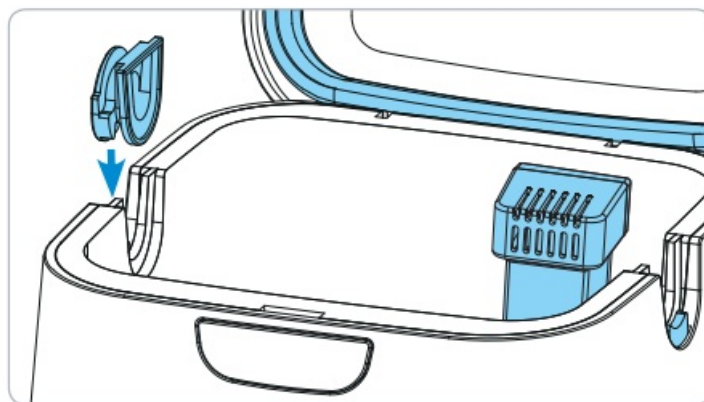

Figure 6. Install Removable hose slot plug
2. Install the Removable hose slot plug into one open slot (Figure 6).
Orientate the Removable hose slot plug as shown in Figure 6.